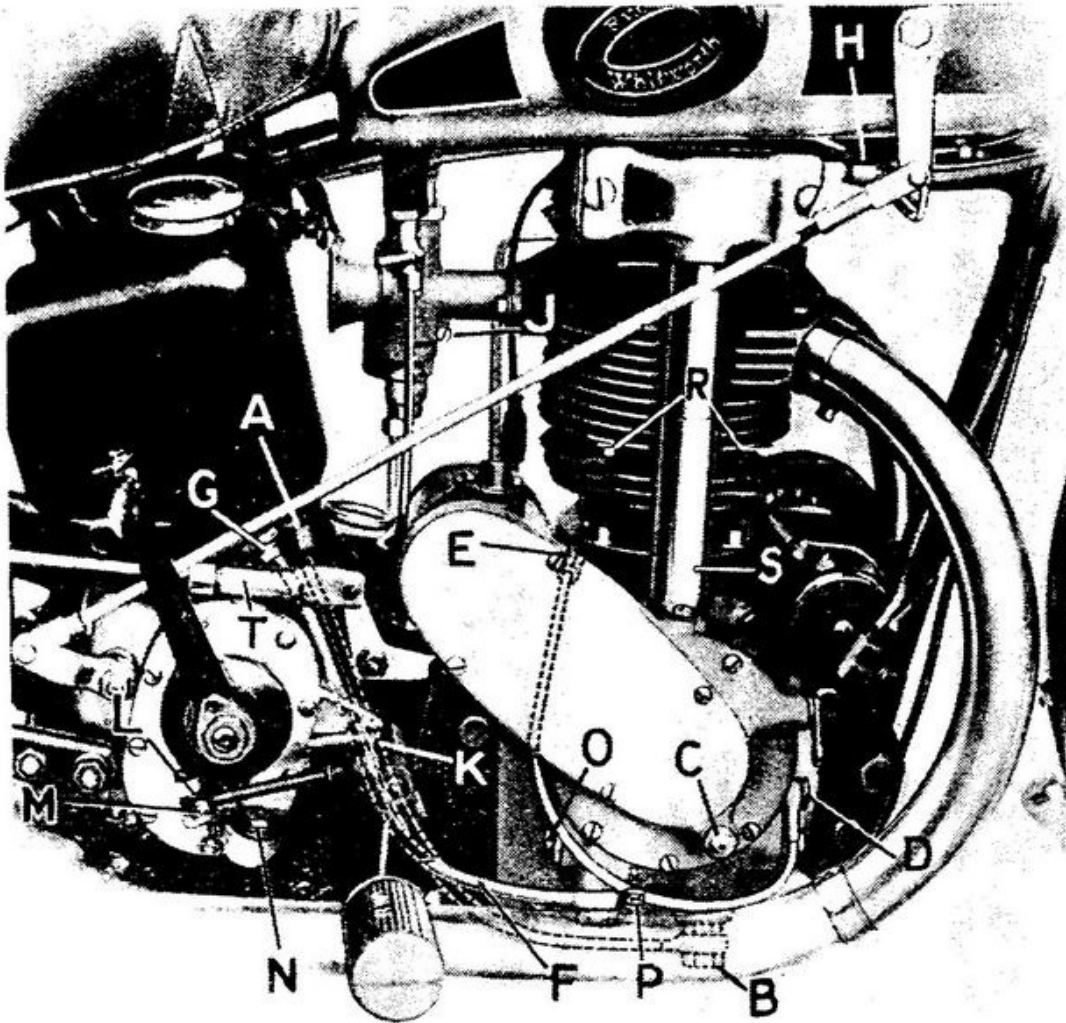
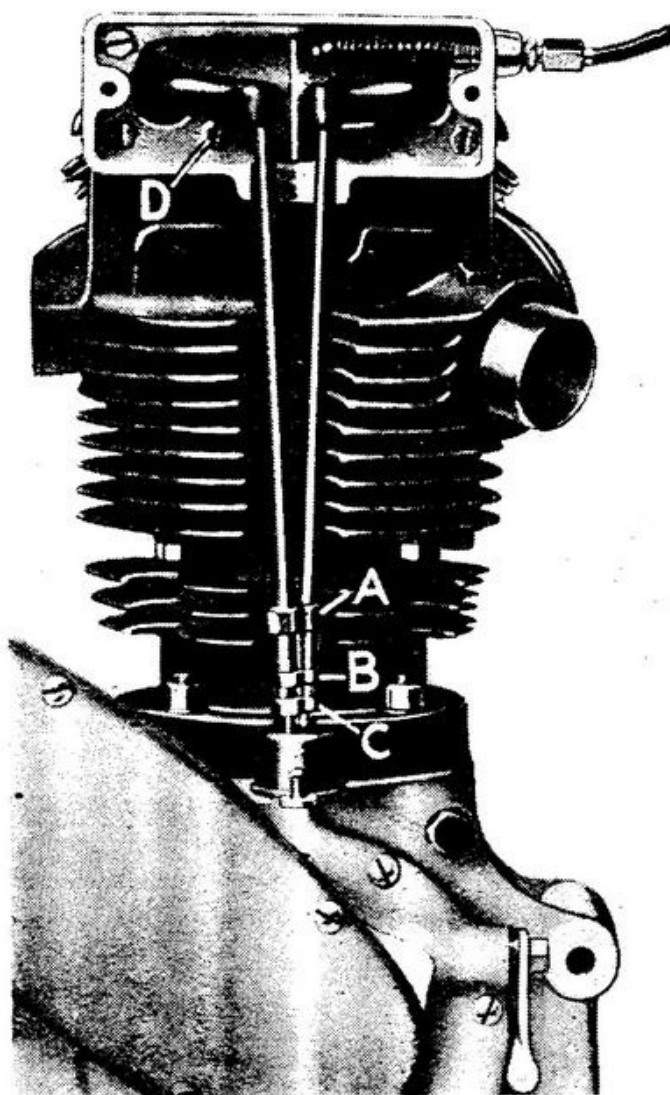
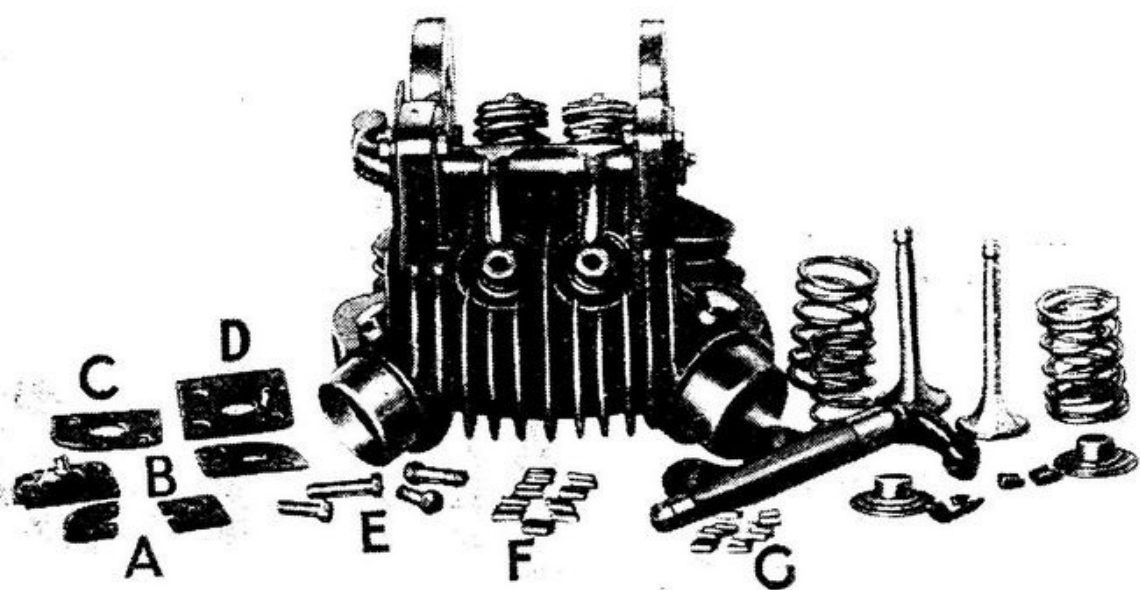

FIG. 5. LUBRICATION SYSTEM, 500 c.c.
FIG. 7. ROCKER GEAR, 500 c.c.
FIG. 9. THE 500 c.c. CYLINDER HEAD AND ROCKERS.
Fill the gearbox by unscrewing the filling plug (N, Fig. 5) and pouring in as much Castrol XXL oil as possible with the machine vertical. Remove the battery and have this charged by a thoroughly reliable electrician. The retailer, however, should do, and generally does, all this.
While the engine is cold ascertain whether there is any appreciable play between the tappets and overhead rockers by taking hold of the ends of the rockers and pushing them alternately up and down (Fig. 7). For correct adjustment the inlet push rod should be free to rotate but without appreciable up and down movement, while in the case of the exhaust valve allow .002in. clearance between rocker and valve stem. When the engine gets hot the clearance increases. It is essential to adjust when cold.
DESCRIPTION. In the dry sump circulating system of lubrication adopted on the Rudge engines, oil, after leaving the oil tank, passes down pipe (A, Fig. 5) to the union (B, Fig. 5), where it enters the oil pump.
If it is thought that the pump is not working properly the operation of the tell tale should be watched and the oil return supply in the oil tank examined. If this shows no oil is passing, an air leak in the suction pipe (A, Fig. 5) should be suspected. If tightening up the unions does not improve matters, the plug at the end of the pump body (O, Fig. 5) should be removed and it will be possible to see whether the plunger is operating. If this is not operating a damaged set pin (P, Fig. 5) or damaged teeth on the spindle
Undo the telescopic tube (S, Fig. 5) by first loosening the nut at the base, rotate the tube until released and then push up, uncovering the adjustable tappets. Holding the head of the tappet (A, Fig. 7) with the "Rudge" spanner, slacken the locknut (B) with the second open ended "Rudge" spanner. Now hold the hexagon (G) with the small end of the thin hook spanner and adjust the clearance by screwing the head of the tappet (A) either up or down. When the adjustment is correct re-tighten the locknut (B) and again check the clearance.
DECARBONIZING. To decarbonize the Rudge engine is a simple matter which has been carried out by two people in well under three-quarters of an hour. Single handed, two or three hours should be ample for the work, for the detachable head is easy to clean and the valves do not require very much grinding in. Start by removing the carburetter, exhaust pipes and high tension lead. Then slack off the cylinder head holding down bolts (R, Fig. 5), spanners for which are provided in the tool kit, and with the handle of a light hammer tap the solid part of the head, not the fins, until it is loose, whereupon it may be lifted off. Unless the machine has done a considerable mileage it is quite unnecessary to remove the cylinder barrel and piston. If, however, several thousand miles of hard work have been covered, it is as well to undo the cylinder holding down nuts and lift the barrel off the piston.
VALVE GRINDING. The removal of the valve springs is facilitated by placing a block of wood inside the head, thus holding the valves on to their seats while the spring collars are pressed down by an adjustable spanner or similar device, and the split cotters (Fig. 9) removed. Take off the valves and springs, marking
Should the 500 c.c. rockers have been dismantled for any reason the following method of assembly should be followed. First thread the inner large plate (C, Fig. 9) over the end of the rocker against which the push rod bears, taking care that it is fitted so that it corresponds with the shape of the cast rocker support. Push the rocker endwise and slide the corresponding smaller plate over the other end. Now pack the rollers (F and G) back into the races and thread the largest plate of all (D) over the end of the rocker adjacent to the push rod. This should be fitted so that the sideways projection is towards the centre line of the engine, thus forming the back of the rocker casing. Next fit the split plates (A) to engage with the grooves in the opposite end of the rocker. These should be fitted so that they are divided horizontally. Finally, fit the convex end plate (B), which has a grease nipple in its centre, and bolt the plates together (E), finally refitting the aluminium rocker casing (D, Fig. 7). File the valve stems until the rocker touches both equally, and the head is ready to be put back on to the barrel.
If the work is undertaken single handed it is preferable to proceed as for decarbonizing before removing the crankcase from the frame, but if the services of a friend can be commandeered it will probably be found easier to remove the exhaust pipes, exhaust lifter control (H, Fig. 5), magneto and dynamo, carburetter, high tension wire, oil pipes, front chain case and chains, and then to take out the bolts passing through the engine plates and lift the whole engine out on to the bench.
Always have a slight degree of back lash in the cable, which may be adjusted by means of the cable stop (K, Fig. 5), or by releasing lock nut (M) and adjusting screw (L) which bears on the end of the clutch push rod. The former method is preferable, as it gives finer adjustment. Both the cable and this push rod should be kept in a well lubricated condition.